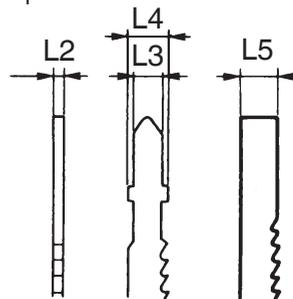

Fig. 14
2. Acceptable commercial blades (Fig. 14)
This machine is designed to accept most blades available on the open market. As illustrated in Fig. 14, blade dimension restrictions are as follows: